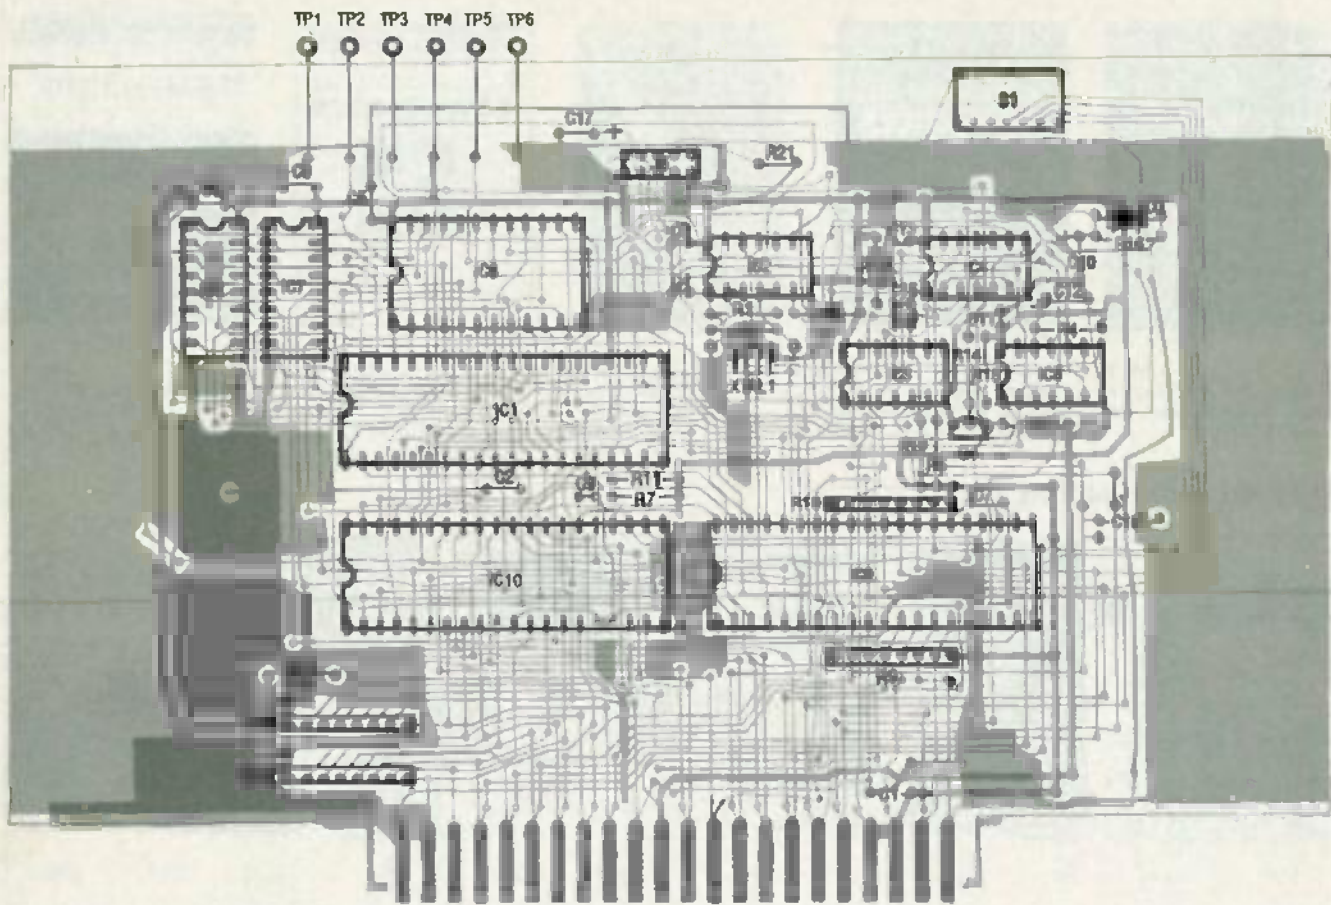

FIG. 7—ASSEMBLE THE COMPONENTS according to this parts-placement diagram.
• **A single full-wave bridge supply.** The connections for a full-wave bridge are shown in Fig. 7. Figure 7-a shows the relevant segment of the schematic, and Fig. 7-b shows the relevant segment of the parts place-
FIG. 7—A FULL-WAVE BRIDGE RECTIFIER as supply #1; (a) is the relevant segment of schematic. (b) is the relevant segment of the parts placement diagram. Remember to reverse D1-D4 for a fixed-negative version. The connections for a full-wave bridge are shown in Fig. 7, and don't forget to add JU8. You can also make supply #2 on top any version, whether positive, negative, fixed, or adjustable.